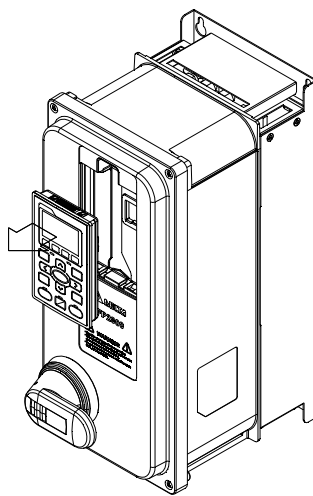

Figure 2
- 1) Remove the keypad. (As shown in figure 2)